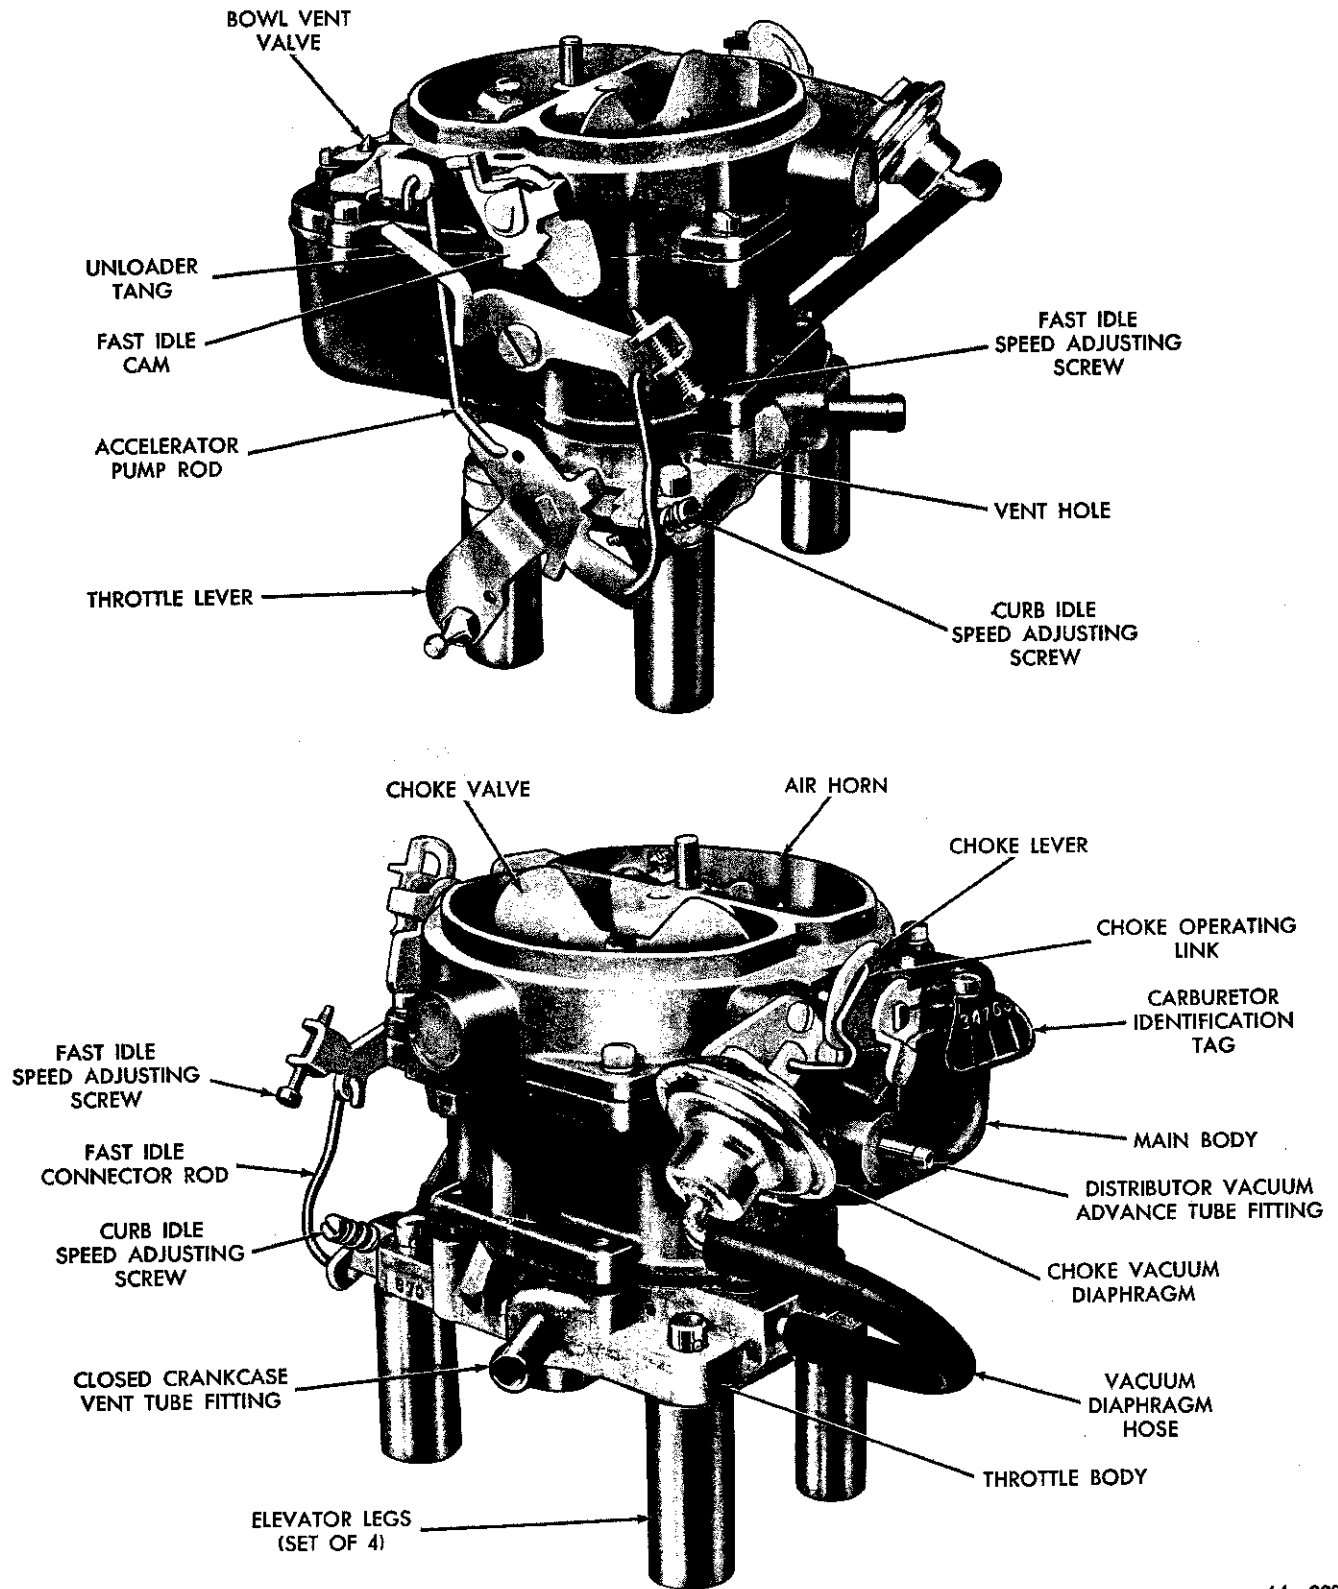

Fig. 1—Carburetor Assembly (BBD-3685S)
## 1 CARBURETOR DISASSEMBLY (Fig. 1)
(1) Insert three Tool T109-287S and one Tool T109-288S elevating legs through the carburetor throttle body stud holes. (These tools are used to protect the throttle valves from damage and to provide a suitable base for working.)
(2) Remove the hairpin clip and disengage the fast idle connector rod from the throttle and fast idle levers.
(3) Remove the hairpin clip and disengage the accelerator pump rod from the throttle lever and the pump rocker arm.
(4) Remove the vacuum hose between the carburetor throttle body fitting and the vacuum diaphragm.
(5) Remove the clip from the choke operating link and disengage the link from the diaphragm plunger and the choke lever. (Refer to Fig. 1.)
(6) Remove the vacuum diaphragm and bracket assembly and place to one side, to be cleaned as a special item. **A liquid cleaner other than mineral spirits, may damage the diaphragm material.**
(7) Remove the air horn retaining screws and lift air horn straight up and away from the main body. Discard the gasket.
(8) Disengage the accelerator pump plunger from the accelerator pump arm by pushing up on the bottom of the plunger and sliding the plunger shaft off the hook. Slide the plunger out of the air horn and remove the compression spring and seat.